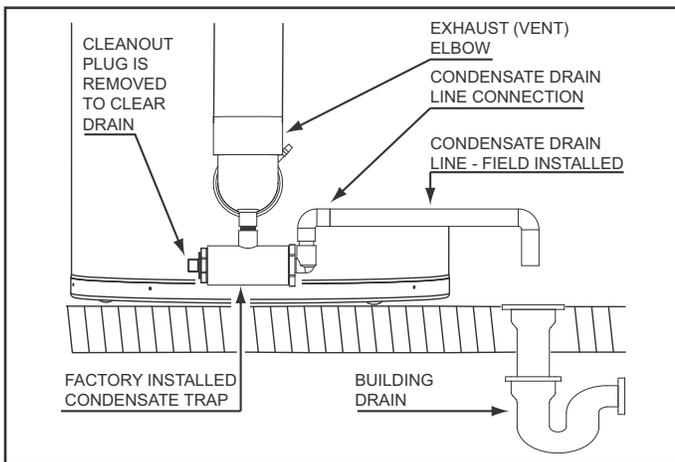

Figure 9
Condensate drains from the water heater at the exhaust elbow located at the bottom. The field installed condensate drain line must not be elevated above the condensate drain connection on the condensate trap, see Figure 9. If the condensate does not drain properly it will build up in the exhaust (vent) elbow. This will restrict the flow of flue gases and cause the Blocked Exhaust pressure switch to open its contacts. The control system monitors all pressure switches, if the Blocked Exhaust Switch contacts are open the control system will lock out and disable heating operation. The "Blocked Exhaust" Fault message will be displayed on the control system's LCD, see Fault And Alert Conditions beginning on page 61.
**DO NOT** remove the factory installed condensate trap for any reason, see Figure 9. The water heater's vent pipe is under a slight positive pressure. The water trap prevents flue gases from escaping into the installed space. See Condensate Drain Installation on page 38.